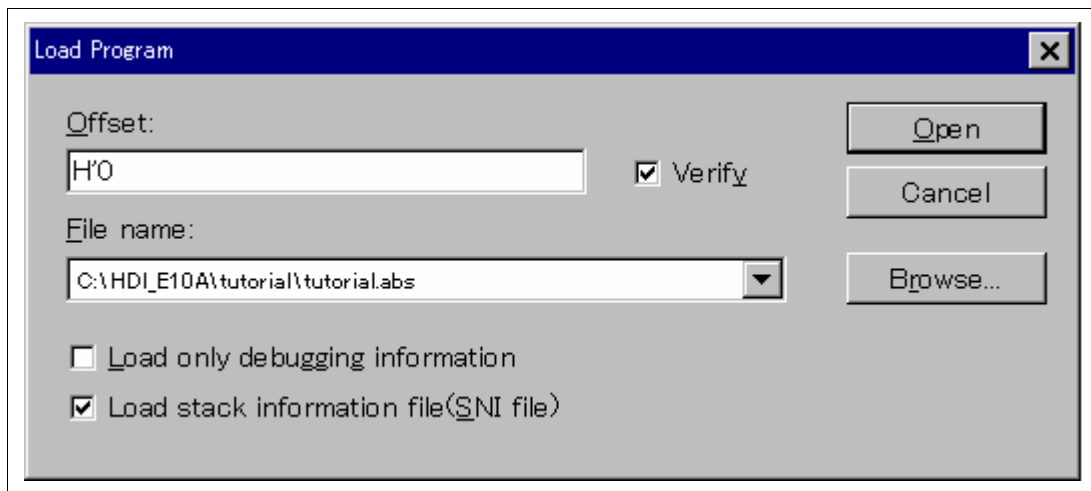

Figure 3.4 [Load Program] Dialog Box
- Select [Load Program...] from the [File] menu. The [Load Program] dialog box is displayed. Enter the [Offset] edit box and [File name] list box as shown in figure 3.4 and click the [Open] button.